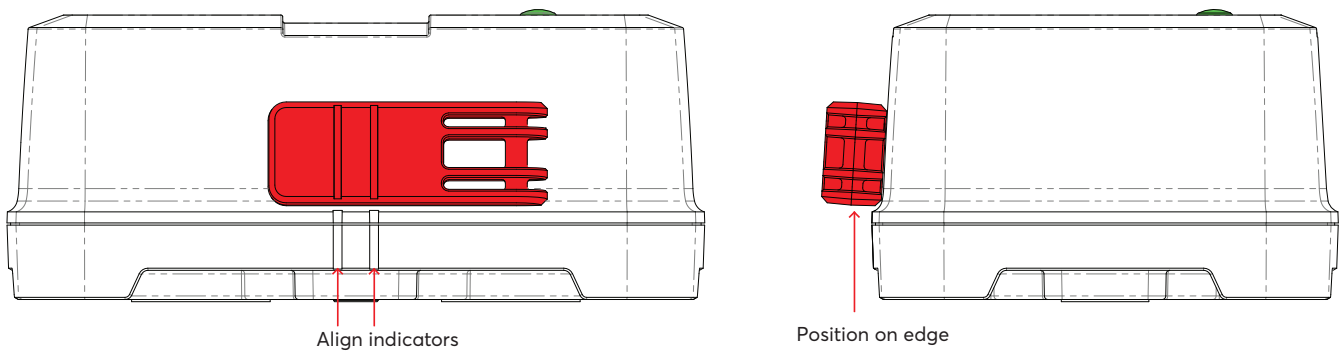

Fig. 3: Magnet Key location
1. Tap the magnet key on the indicators of the device (Fig. 3 Page 4)